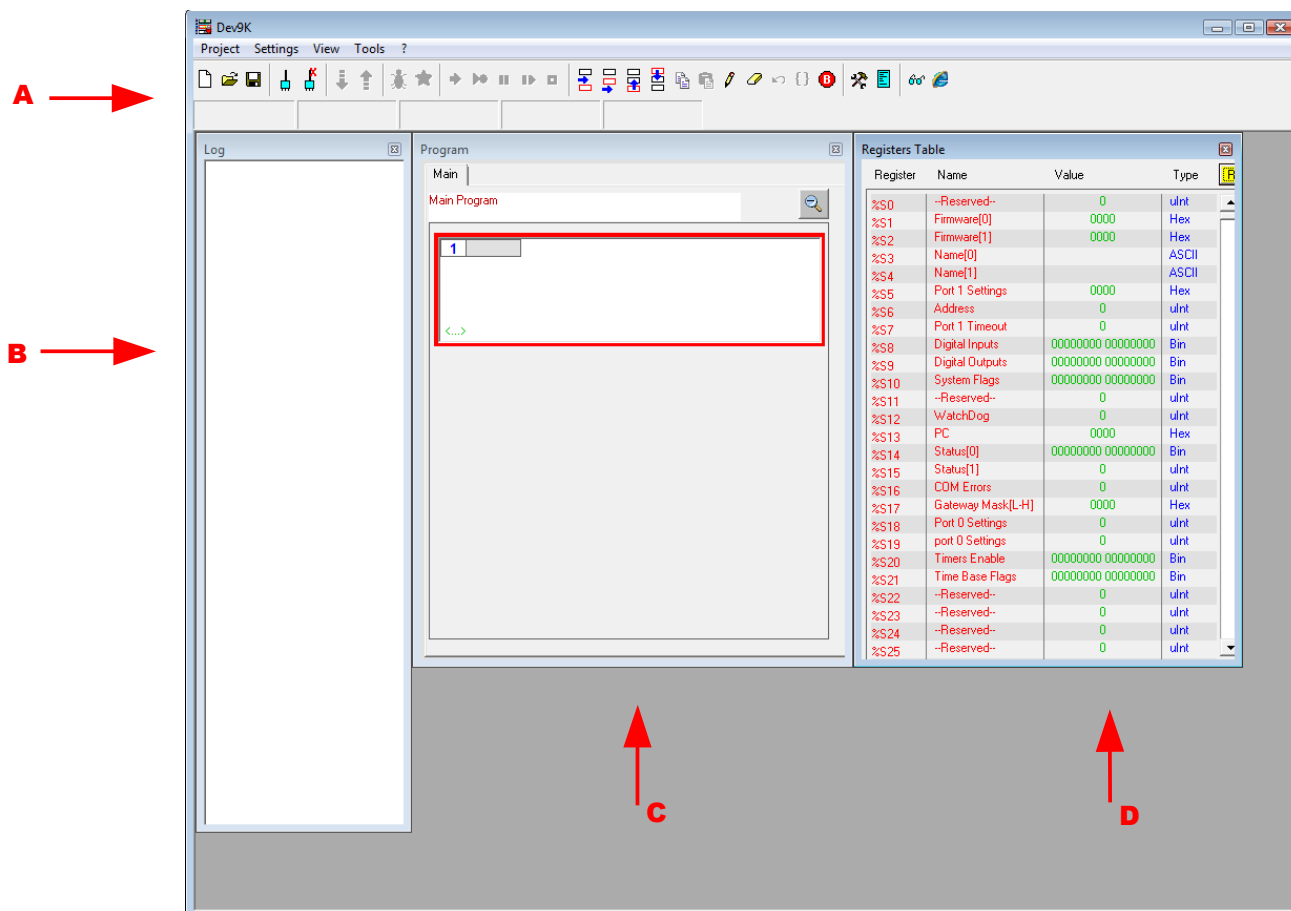

Fig. 1.1
- The Menu bar, the Tool bar and the Status bar (Fig.1.1-A)
- The Log window (Fig.1.1-B)
- The Main Program window (Fig.1.1-C)
- The Registers Table (Fig.1.1-D)
- “*Log*”: empty window that will contain the operation performed (Fig.1.1-B).
- “*Program*”: in this window it is possible to insert the Function Blocks to generate the Program. For a new Project this window contains a blank Function Block. (Fig.1.1-C).
- “*Registers Table*”:contains the list of Controller's Registers (Fig.1.1-D).